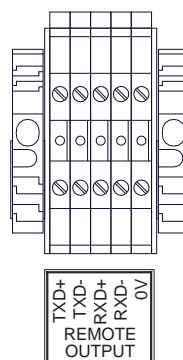

Figure 4 Main 880 terminal blocks and connections
3. Connect the RS-422 Serial communications cable to the terminal blocks labeled “REMOTE OUTPUT” in the Main 880 enclosure (Figure 4).